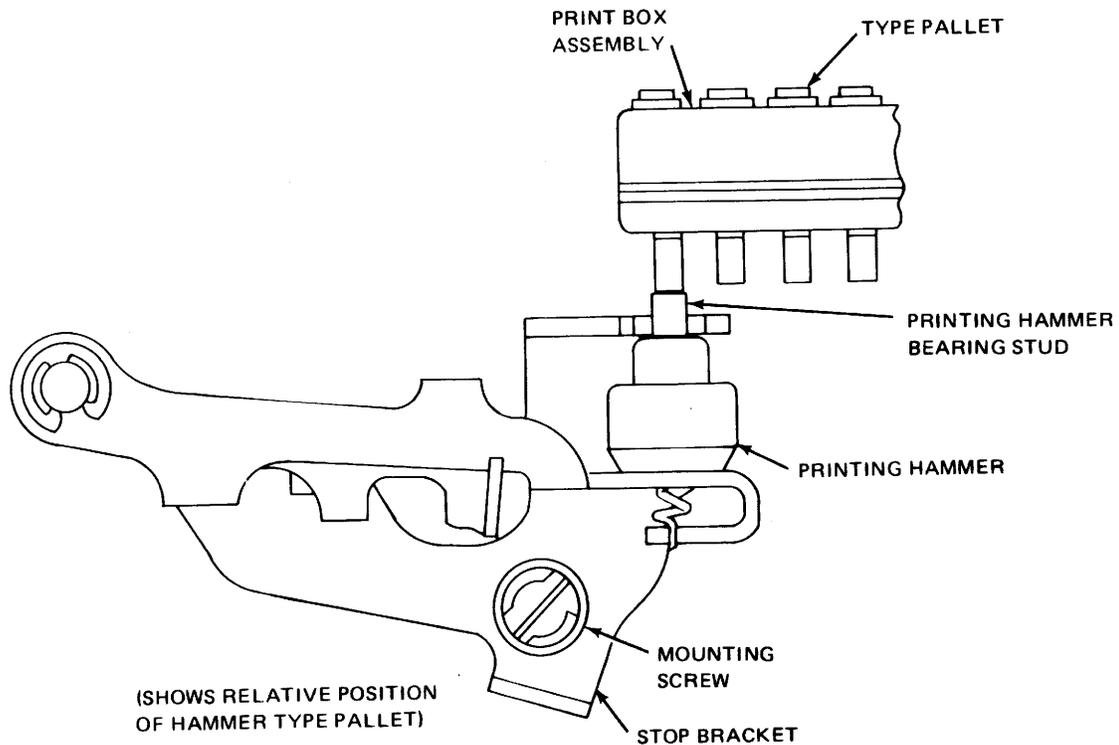

Figure 6-5. Printing Hammer Bearing Stud Adjustment.
b. Verify that printing hammer bearing stud has at least two-thirds vertical contact with type pallet (see figure 6-5); then proceed to step 5 d..